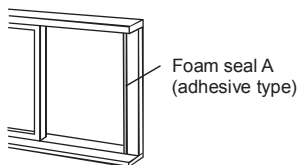

Fig. 12
1. Cut the foam seal A (adhesive type) to the proper length and attach it to the window frame. See Fig. 12.